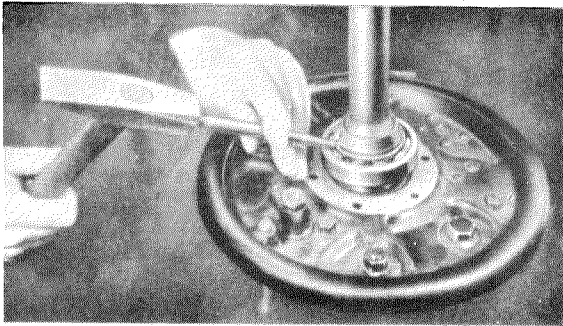

Fig. 35 — 4/6
19. Apply sealing compound to both sides of the new gasket and place it in position on the seal retainer at the axle tube side (Fig. 35 — 4/7).